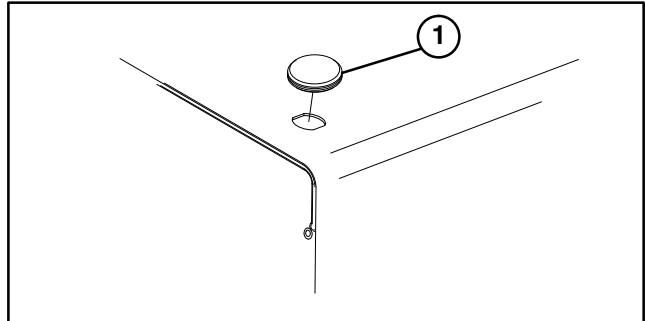

Figure 2
MOUNT HOOD LATCH (Fig. 2 & 3)
1. Remove plug from hole in left front corner of hood (Fig. 2).